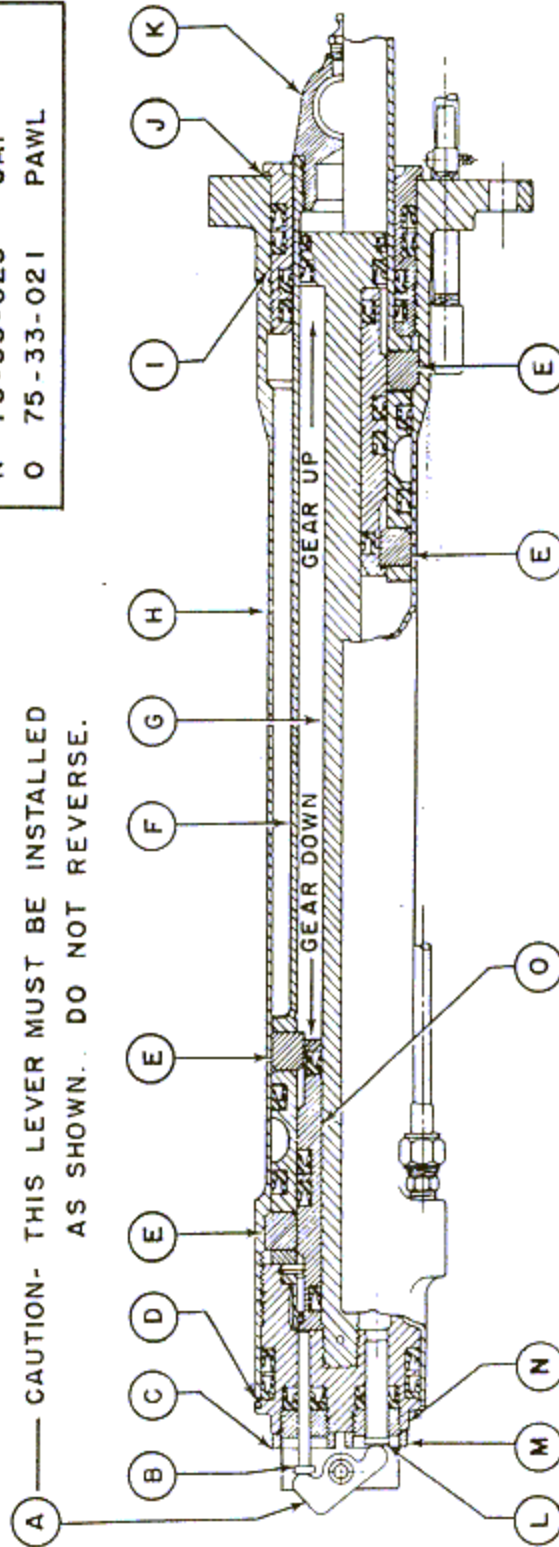

Figure 245—Landing Gear Retracting Strut
(a) GENERAL.—The retracting struts (one for each leg) are located above the oleo struts in the leading edge of the wing forward of the wheel pockets. Extension of a strut causes its landing gear to retract until the wheel lies flush in the wing. The strut piston has a travel of 11.06 inches for full retraction, and has two sets of mechanical locks which are operated by the over-travel of an internal sliding pawl. The mechanical locks consist of two sets of six radial segments, retained in square broached holes in the piston, which are positively cammed into and out of the locked position by the sliding pawl. (See figure 245.)
10. Install the lever on the cap with the clevis pin and safety the pin with a cotter pin. This lever must be installed as shown in figure 245. Do not reverse.